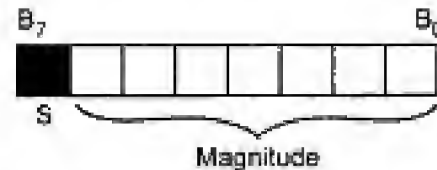

Fig. 1.16 2's Complement 8-bit number
5) **Overflow Flag** : In 2's complement arithmetic, most significant bit is used to represent sign and remaining bits are used to represent magnitude of a number (see Fig. 1.16). This flag is set if the result of a signed operation is too large to fit in the number of bits available (7-bits for 8-bit number) to represent it.